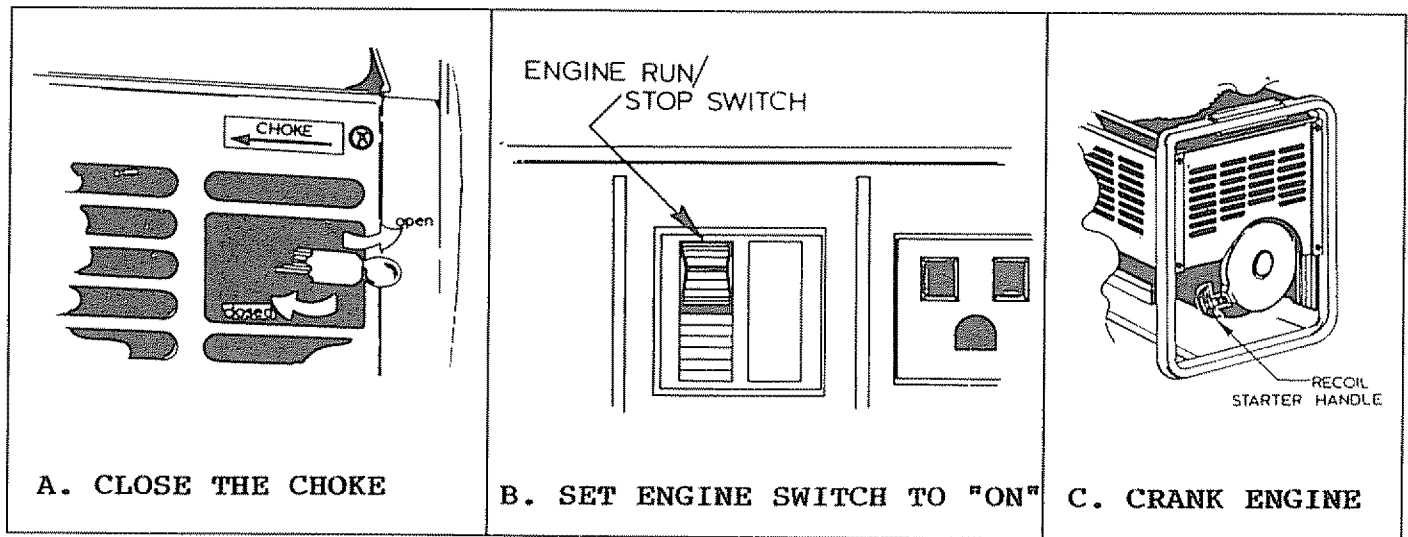

Figure 2-2. Starting the Engine
2.4- STARTING THE ENGINE (Figure 2-2)